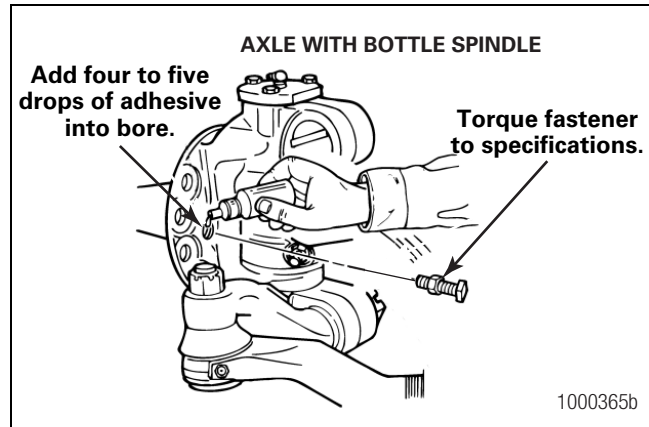
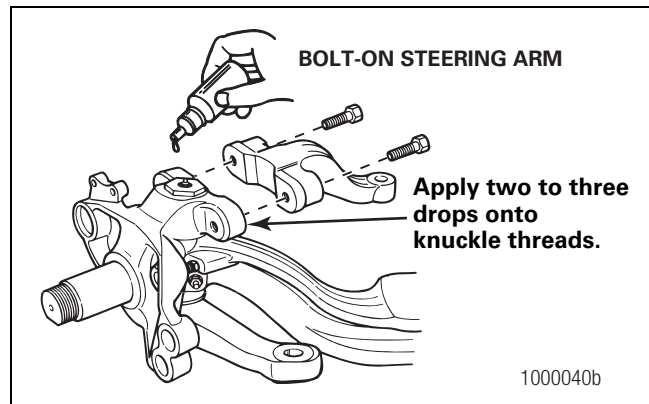

Figure 5.1
Figure 5.2
2. Apply four or five drops of Meritor liquid adhesive, Loctite® 680 adhesive or equivalent into each threaded hole or bore only. Figure 5.1 and Figure 5.2.